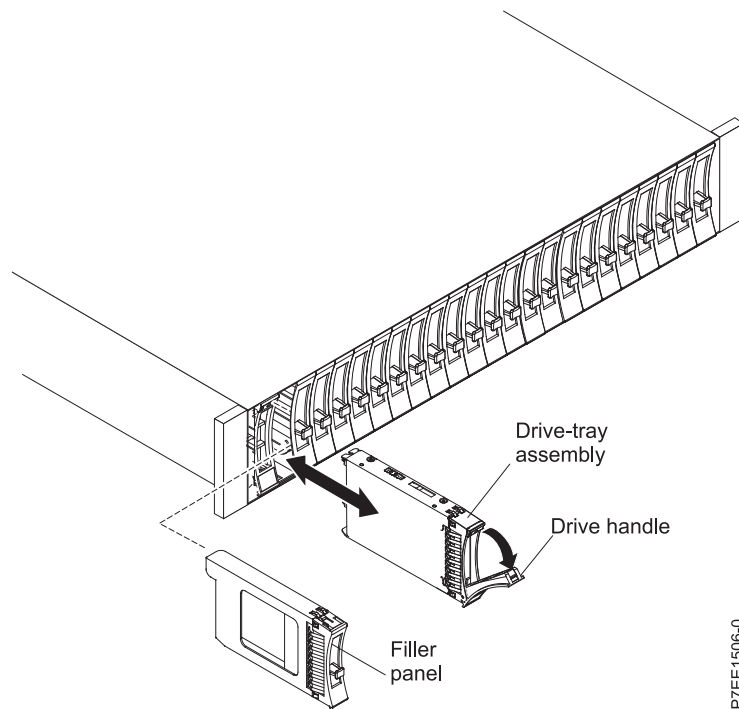

Figure 41. Removing a drive from an ESLS storage enclosure
5. Grasp the front of the drive and pull it out from the slot, ensuring that you support the bottom of the drive, as shown in Figure 41 on page 37.